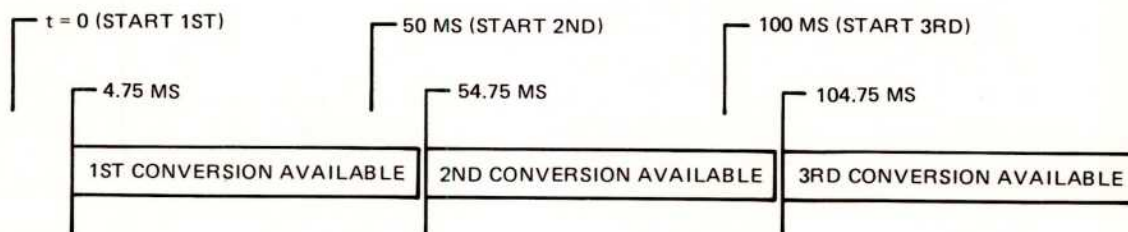

Figure 3-6. 50 Millisecond Pace Rate
(1) The output for a conversion becomes available 4.75 (–0 +.06) ms after the start of conversion and stays available until 4.75 (–0 +.06) ms after the next start of conversion. Conversion starts when \square is received, the external start jack is used, or the pacer time interval is up and a new conversion is started by the pacer (Figure 3-6).
(2) Once both output bytes have been sent, an attempt to send out another byte will result in the bus handshake not being completed (the 59313A will not set DAV line LO) until more data is ready. This feature can often be used to load the controller memory with samples taken by the 59313A at equal increments of time. The controller simply spends its spare time waiting for the handshake to complete. The controller's data acquisition time must be shorter than the 59313A pacer interval being used.
(3) If, when a new pair of data bytes is ready, neither of the old pair has been sent, then the old are replaced with the new.
(4) If, when a new pair of data bytes is ready, the 1st byte of the old pair has been sent but the 2nd has not, then the new pair will be lost and the 2nd byte stays available until it is sent.